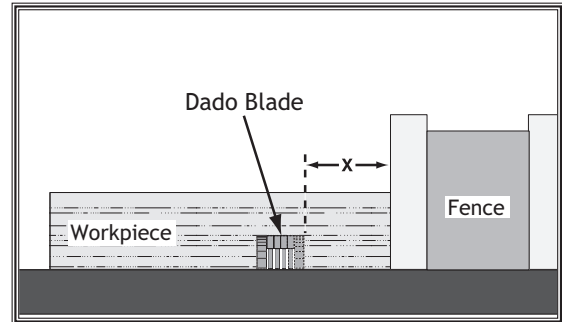

Figure 57. Example of a dado cut with a dado blade.
Commonly used in furniture joinery, a dado is a straight channel cut in the face of the workpiece. Dadoes can be cut using either a dedicated dado blade or a standard saw blade. **Figure 57** shows a cutaway view of a dado cut being made with a dado blade.
2. Adjust the distance between the fence and the inside edge of the blade, as shown in **Figure 57** on **Page 44**.